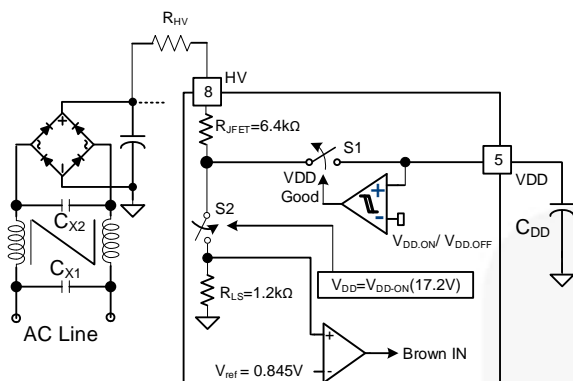
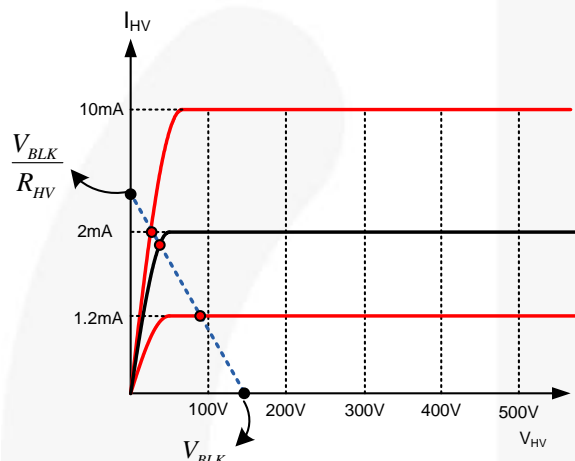

Figure 43. HV Startup Circuit
Figure 44. Characteristics of HV pin
Figure 43 shows the High-Voltage (HV) startup circuit. An Internal JFET provides a high voltage current source, whose characteristics are shown in Figure 44. To improve reliability and surge immunity, it is typical to use a R_{HV} resistor between the HV pin and the bulk capacitor voltage. The actual current flowing into the HV pin at a given bulk capacitor voltage and startup resistor value is determined by the intersection point of characteristics I-V line and the load line as shown in Figure 44.
During startup, the internal startup circuit is enabled and the bulk capacitor voltage supplies the current, I_{HV} , to charge the hold-up capacitor, C_{VDD} , through R_{HV} . When the V_{DD} voltage reaches V_{DD_ON} , the sampling circuit shown in Figure 43 is turned on for t_{HV_det} (100 μ s) to sample the bulk capacitor voltage. Voltage across R_{LS} is compared with reference which generates a signal to start switching. If brown-in condition is not detected within this time, switching does not start. Equation (9) can be used to program the brown-In of the system. If line voltage is lower than the programmed brown-In voltage, FAN602 goes in auto-restart mode.